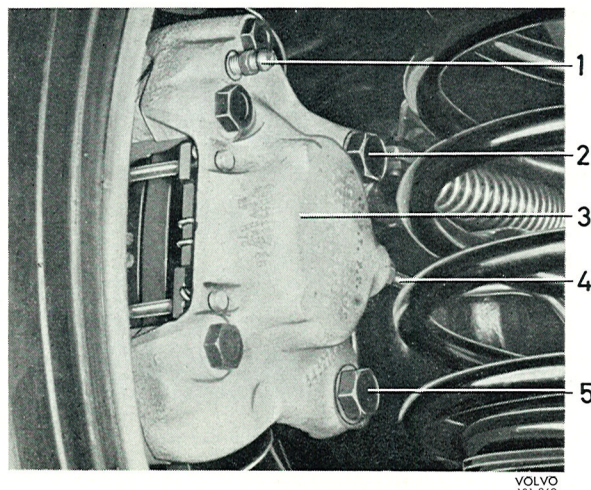

Fig. 5-22. Rear wheel brake unit fitted
3. Disconnect the brake line connection (4, Fig. 5-22) and fit the protective cover. Unscrew the attaching bolts (2 and 5). Lift off the brake caliper, see Fig. 5-23. Take care of shims if fitted.
2. Connect the brake line, see Fig. 5-22.